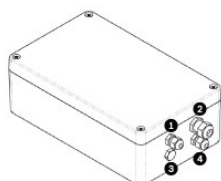

Figure 4.5 MIC PSU Enclosure, with cable glands identified
17. Feed the unconnected end of the shielded composite cable through the top-right M16 cable gland (item 2, *Figure 4.5*).
22. Feed the Video Out (coax) cable through the top-left M12 cable gland (item 1, *Figure 4.5*). Crimp the end of the cable with a BNC terminal connector.
24. *For dual video output only:* If needed, remove the blanking plug that covers the hole for the bottom-left M12 cable gland (item 3, *Figure 4.5*). Feed a second Video Out cable through the cable gland, and then connect the switched Video Out cable to BNC socket CN3. This second cable provides control for video from both the optical camera and the thermal camera; users can switch between the two cameras.
25. Feed telemetry cable through the bottom-right M12 cable gland (item 4, *Figure 4.5*).
27. If connecting to additional add-on cards (for example, a card for 8-input alarms (MIC-516ALM) or for 8-input alarms plus washer pump drive (MIC-ALM), and/or a Biphase card (MIC-BP4)), remove the second blanking plug that covers one of the holes for an M12 cable gland (item 3, *Figure 4.5*). Attach the supplied M12 gland. Make the appropriate connections to plug-in terminal CN2.